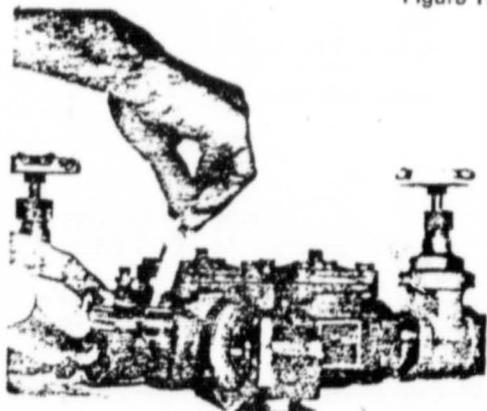

Figure 18
8. To reassemble, first apply a liberal amount of silicone grease into the O-ring bore and in the stainless seat bore. Also apply to O-ring. (Figure 18.)